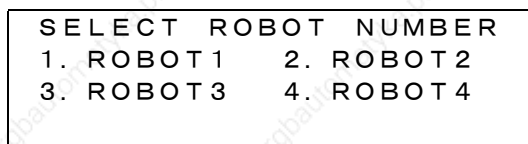

Fig. 2.4 Robot Number Selection Screen (Example)
- (1) Go through the steps in previous section 2.2 and display Fig.2.4, Robot Selection Screen (Example).
- (2) Type the robot number to be configured. After making the selection, you are able to teach and control the selected robot. If you press any other key, the display will go back to the opening screen.